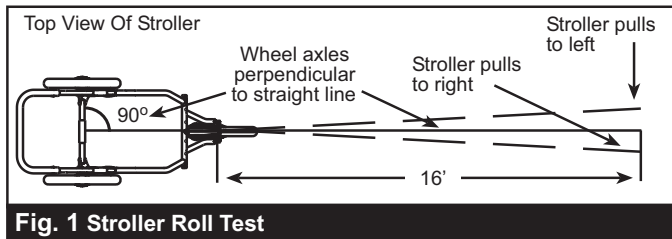

Fig. 1 Stroller Roll Test
- 4) Roll test the stroller as described below. It is recommended you have someone assist with this task in order to catch and return the stroller. Fig. 1 illustrates the roll test process.
- d. If the stroller consistently pulls to the left or right when pushed straight, proceed with the steps below until tracking is satisfactory. Fig. 1 illustrates how to interpret the results.